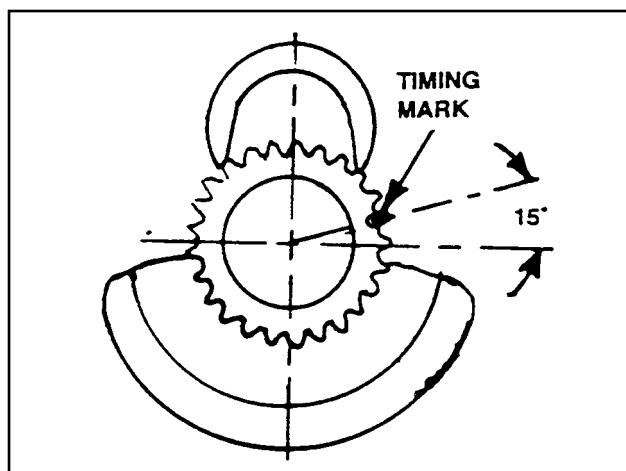

Figure 9. Timing Mark on Crankshaft Gear
4. Rotate the crankshaft until the timing mark (Figure 9) is toward the cam gear side of the crankcase.